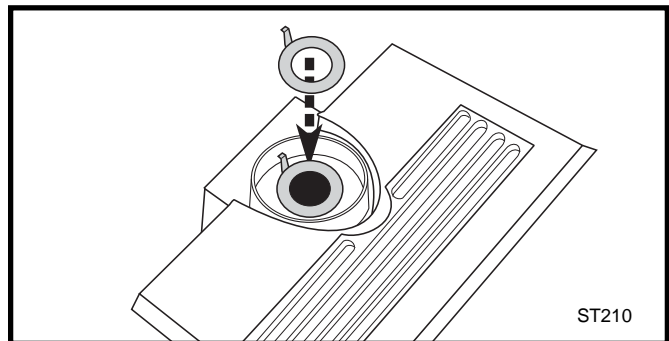

Fig. 16 Install the restrictor plate only if required for the venting configuration. Refer to page 8.
1. **Install the Restrictor Plate.** Consult the 'Vent Run Specifications' on page 8 to determine whether the restrictor plate is needed. If so, put the restrictor plate in place within the inner flue collar as shown in Figure 16. **NOTE:** The restrictor plate supplied with the vertical termination should be discarded. Install restrictor plate supplied with the stove directly at stove outlet.
- 1. Install the Restrictor Plate.** Consult the 'Vent Run Specifications' on page 8 to determine whether the restrictor plate is needed. If so, put the restrictor plate in place within the inner flue collar as shown in Figure 16.